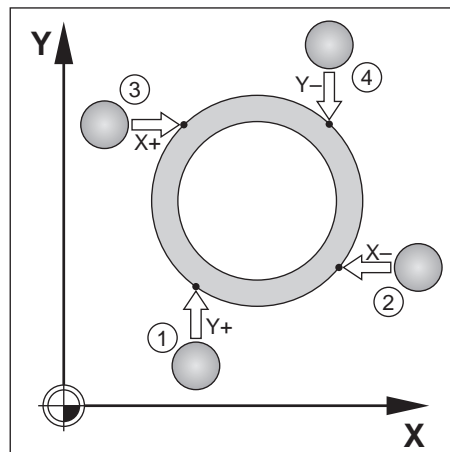

Fig. 2.16: Probing an outside cylindrical surface to find the center
Repeat the probing process for points ②, ③ and ④ (see Fig. 2.16).